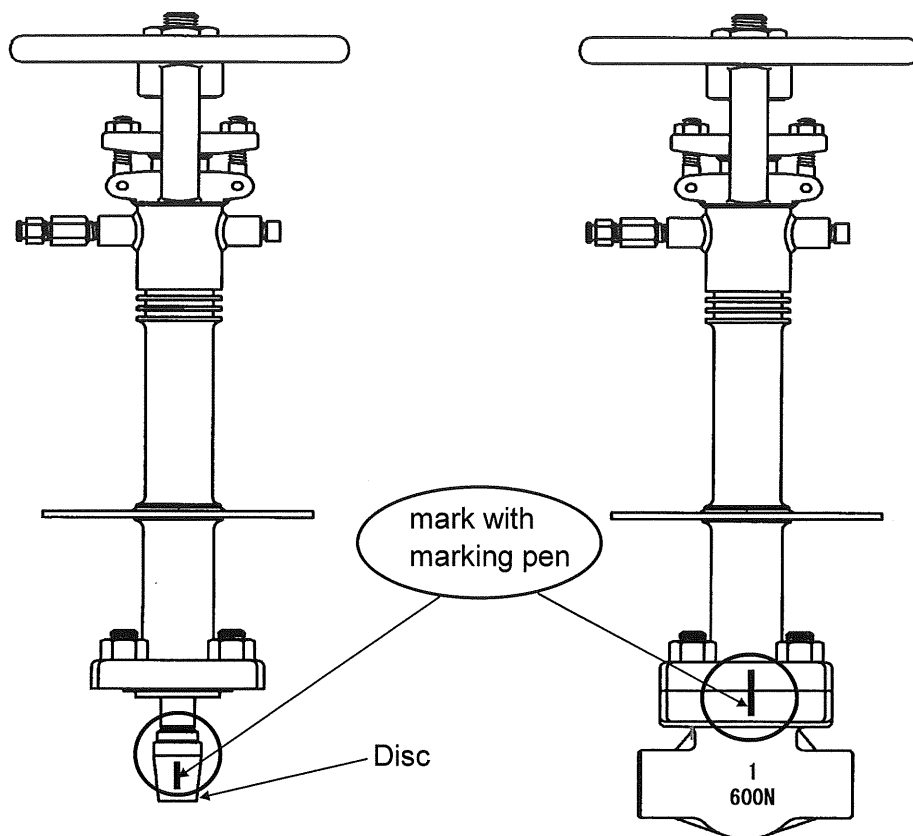

Figure 7.1 Example for Marking Method of Match mark
- Make the match mark on the body-bonnet joint by marking pen as shown in Figure. 7.1 before loosening the bonnet bolts. When assemble the valve, body and bonnet shall be fitted by match mark.
- 4) Remove the disc from the stem. Caution shall be so taken as not to cause damages to its seating faces. For re-assembling the valve, the valve disc shall be marked a match mark as shown in Figure 7.1. As it is, valve seat surfaces are coincided as before condition and valve leakage can be prevented.